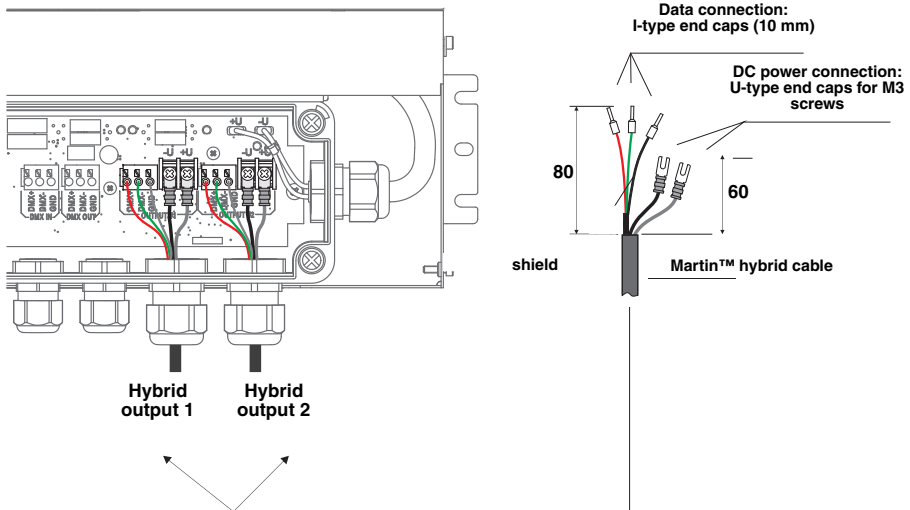

Figure 14: Hybrid link connections in PSU
2. See Figure 14. Martin™ hybrid Splitter cables have ferrules (I-type end caps) pre-installed on DMX control data wires and U-shaped end caps pre-installed on 30 VDC wires. You can make a custom-length hybrid Splitter cable by cutting the cable supplied by Martin™ to the required length. If you do this, you must prepare custom cables for connection inside the PSU. See Figure 14: